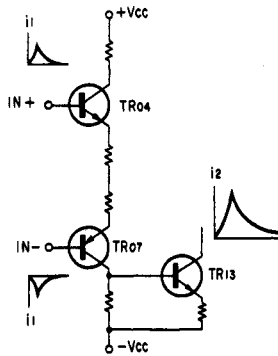
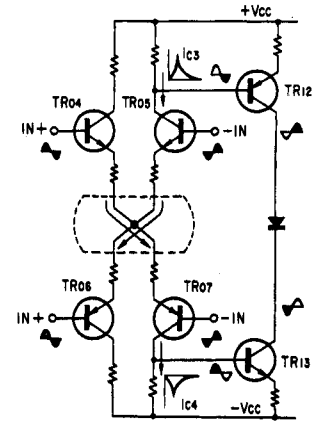

Fig. 2-3 (Complementary differential)
Fig. 2-5 (Fundamental of D.D. DC circuit)
- 1) Fig. 2-5 shows the fundamental circuit of D.D. DC circuit. TR04 and TR05 as well as TR06 and TR07 consist of the voltage differential circuit. On the other hand, TR04 and TR07 as well as TR05 and TR06 consist of the current differential circuit.
Fig. 2-3 shows the current differential circuit.
In Fig. 2-5, TR04 and TR05 as well as TR06 and TR07 perform voltage differential amplification at the normal signal frequency band. When a signal containing transient and high frequency component is applied, the operation of this stage shift from voltage differential amplification to current differential amplification of TR04 and TR07 as well as TR05 and TR06, which let the large current flow into this stage. Above function results the improvement of rise time and slew rate, in another word the reduction of TIM distortion.
- 2) The detailed operation of current differential circuit is as follows: TR04 and TR07 consist of complementary circuit in Fig. 2-3 and have a out of phase input respectively, therefore, only when a transient signal including (+) side components to TR04 and at (-) to TR07 is applied, this circuit functions and outputs only half a wave but large current. TR05 and TR06 perform the similar function in Fig. 2-5 and the outputs of TR05 and TR07 are out of phase and half a wave that TR12 and TR13 in next stage function as a push-pull operation and the large current can be flowed.
\* In this Fig. 2-5 the cascode connection consisting of TR02, TR03, TR08 and TR09 is omitted.